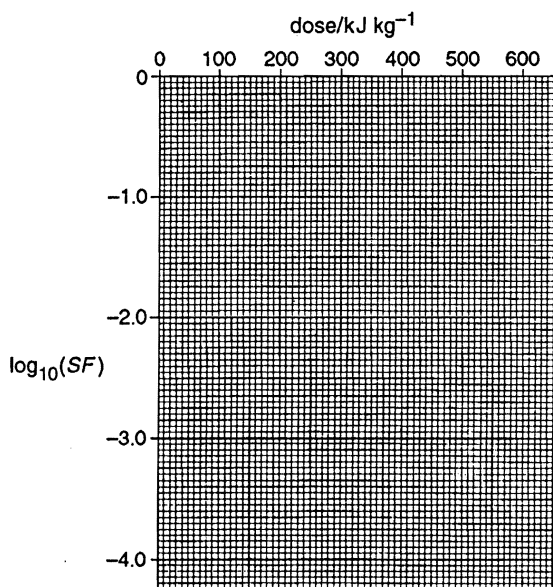

Fig. 30
(c) Use your values in the table of Fig. 29 to plot, on the axes of Fig. 30, a graph to show the variation with absorbed dose of log₁₀(SF) for the dose-rate of 200 W kg⁻¹. [3]
(ii) Fig. 30?
(ii) State how the graph of Fig. 30 may be used to determine (SF)_R for an absorbed dose of 560 kJ kg⁻¹.
(iii) Discuss whether it is possible, by reference to your graph of Fig. 30, to determine separate values of (SF)₁ and (SF)₂ for the absorbed dose of 560 kJ kg⁻¹. [4] J95/11/8